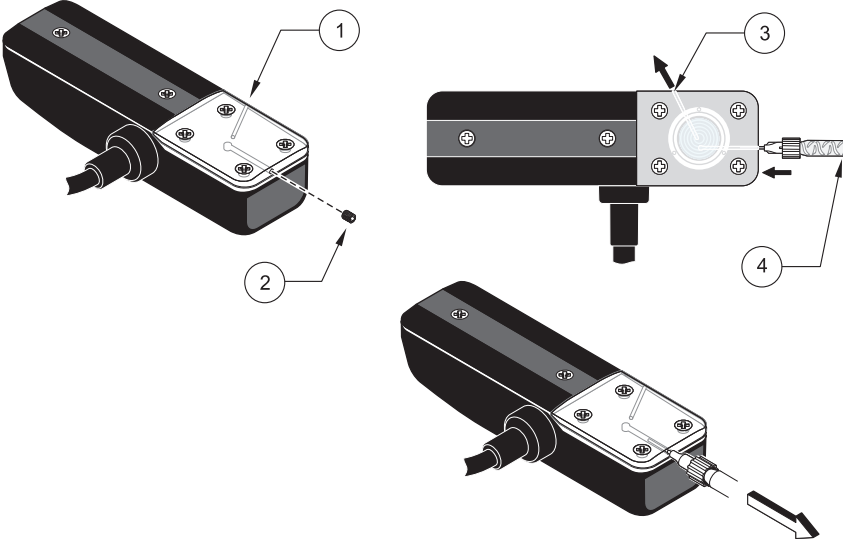

Figure 37 Oil Replenishment
7. Insert the syringe tip slowly into the set screw hole and dispense the oil (Figure 37 on page 63).
**Note:** While dispensing the oil, hold the probe at an angle to allow the air to be pushed out the side port (Figure 37 on page 63).